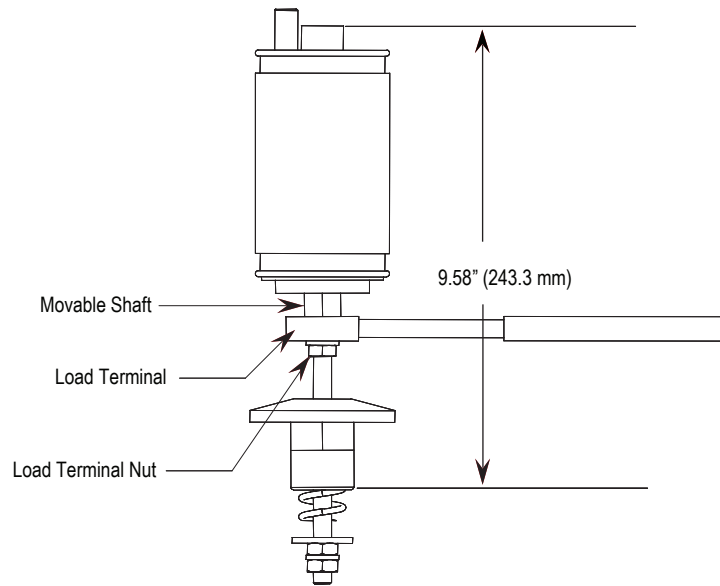

**Figure 4.5 – Vacuum Bottle Assembly**
6. Disassemble one assembly at a time as shown in Figure 4.5. Leave the gap adjustment nut directly below the rocker washer on the insulator stud near the bottom.